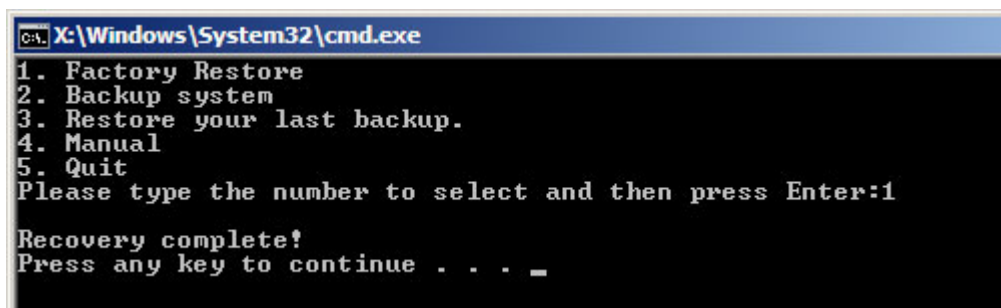

Figure B-25: Recovery Complete Window
Step 11: The screen is shown as in **Figure B-25** when completed. Press any key to reboot the system.
Step 14: The screen is shown as in **Figure B-25** when system backup is completed.
Step 17: The screen is shown as in **Figure B-25** when backup recovery is completed.